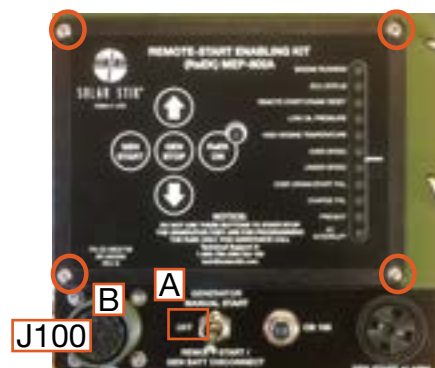

Figure 1. RsEK Faceplate
4. Remove the four (4) faceplate bolts (Figure 1, circles) to gain access to the backside of the RsEK.